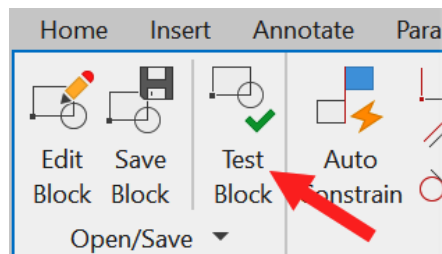

Figure 11.26: The Test Block function in the Open/Save panel
12. You can now test your new dynamic block using the **Test Block** function. Click on **Test Block** in the **Open/Save** panel in **Block Editor**, as shown in *Figure 11.26*.